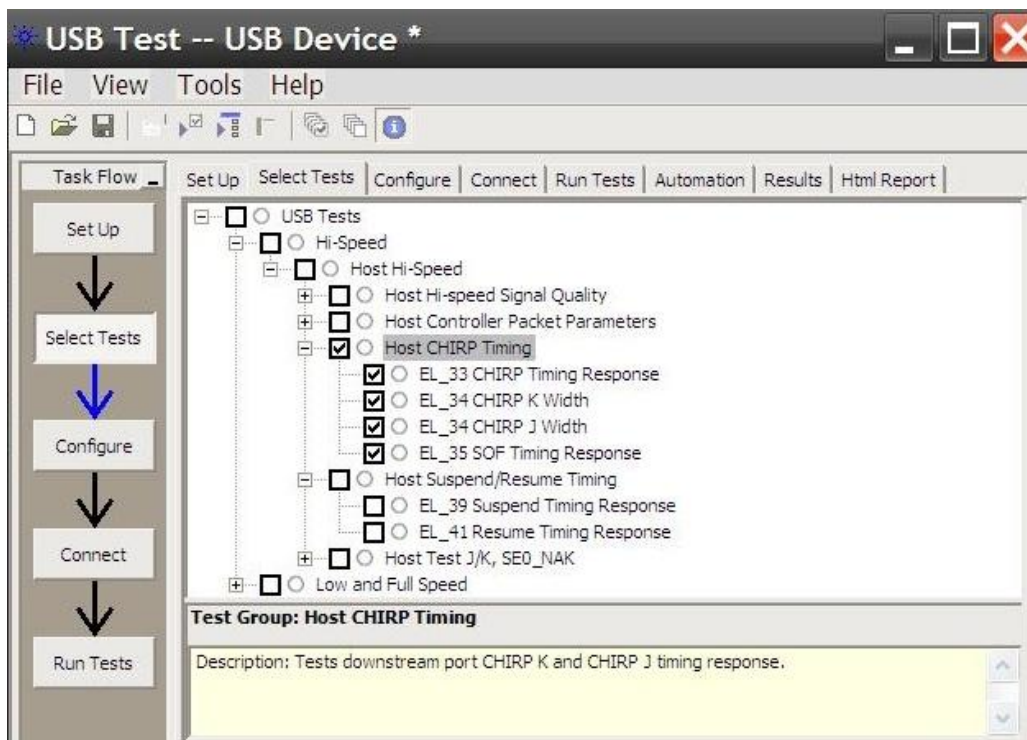

Figure 72. Host CHIRP Timing Test
1. Select the test items in the USB Automated Test software on the oscilloscope as shown in Figure 72. Ensure that the Test Type configuration option is set to Hi-Speed Near End before running the test.